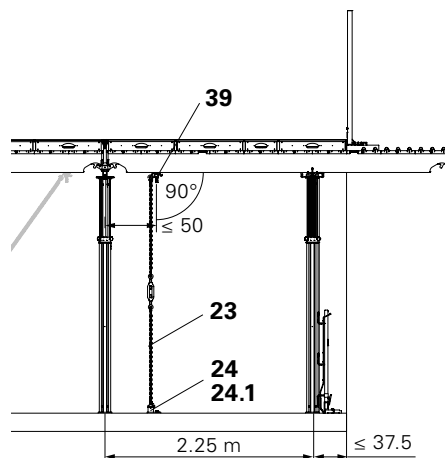

Fig. A8.01
Mount Tension Sleeve SAO (39) on main beam. Distance to inner prop max. 50 cm. Brace using Anchor Chain (23), Base Plate (24) and Anchor Bolt (24.1). (Fig. A8.01)